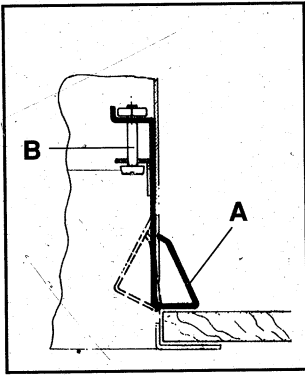

Fig. 4
- c)** Screw screws **B** (Fig. 4) fastening the unit to the wall cabinet.